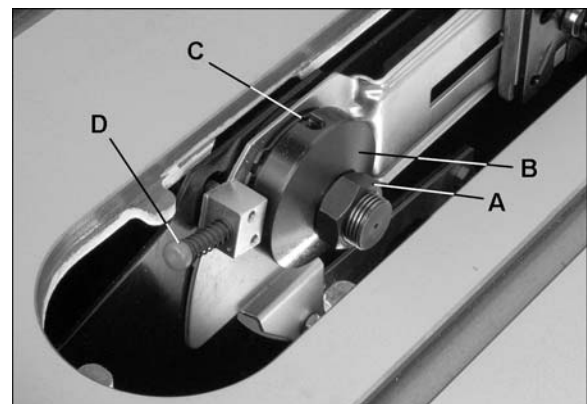

Figure 8
2. Remove arbor nut (A, Figure 8) and flange (B).
4. Rotate arbor until hole (C) lines up with arbor lock pin (D). Push pin into hole and hold.